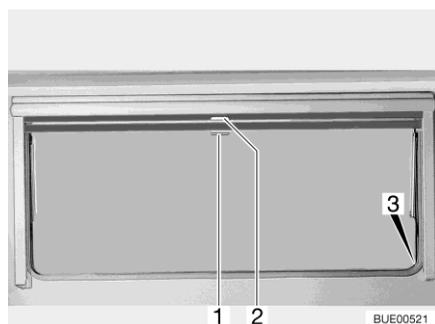

Fig. 74 Hinged window
- Pull blind at the handle (Fig. 74,2) downwards. If the blind is to be completely closed, it is suspended into the locking devices (Fig. 74,3) situated on both sides of the window frame.
- If the blind is completely closed: Press handle (Fig. 74,2) downwards and, at the same time, tilt it slightly inward. The blind can be taken out of the locking devices situated on both sides of the window frame.
- If the blind is in an intermediate position: Pull the handle (Fig. 74,2) slightly downwards until the locking device releases.
- Pull insect screen at the handle (Fig. 74,1) down and hang it into the locking devices (Fig. 74,3) situated on both sides of the window frame.
- Press handle (Fig. 74,1) downwards and, at the same time, tilt it slightly inward. The insect screen can be taken out of the locking devices situated on both sides of the window frame.